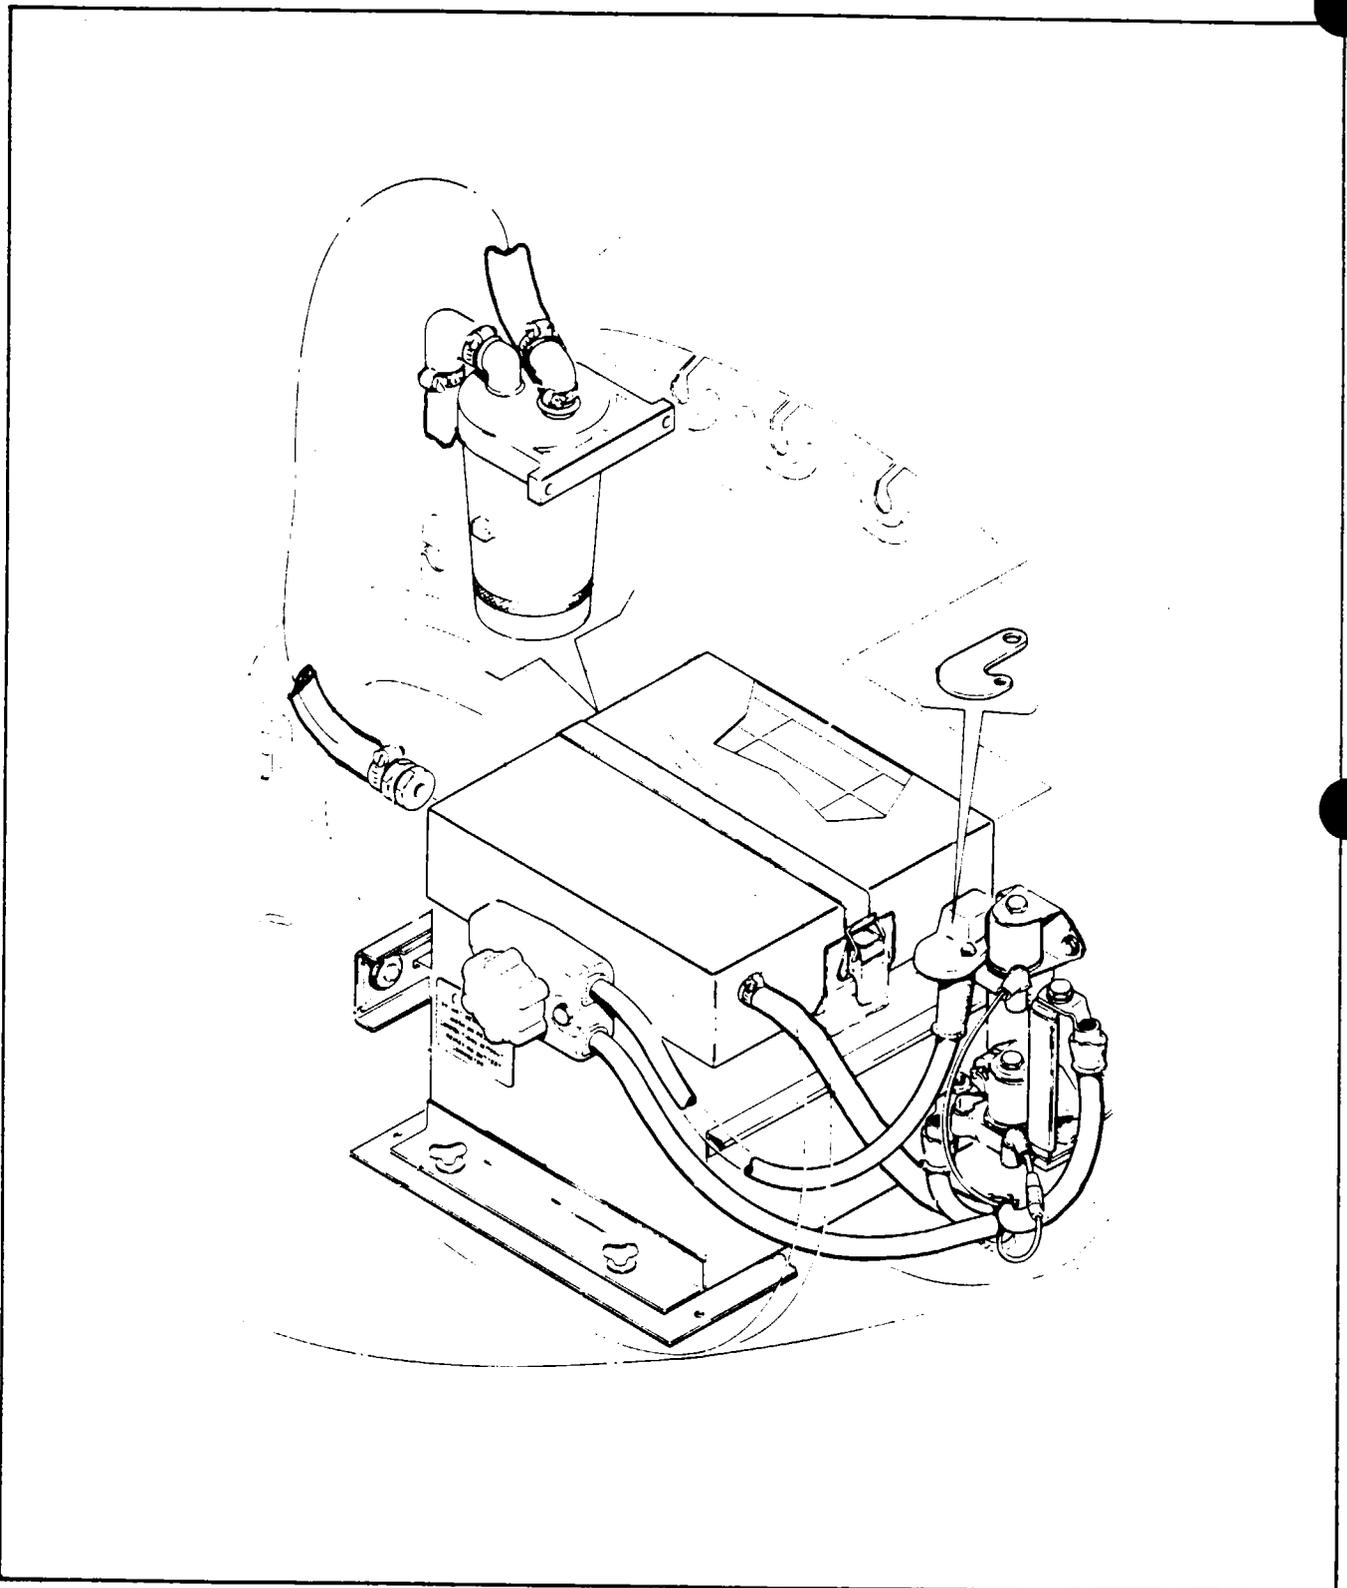

Figure 24-10a. Lead Acid Battery Installation
**SERVICING THE LEAD ACID BATTERY SYSTEM.** (Refer to Figure 24-10a.)